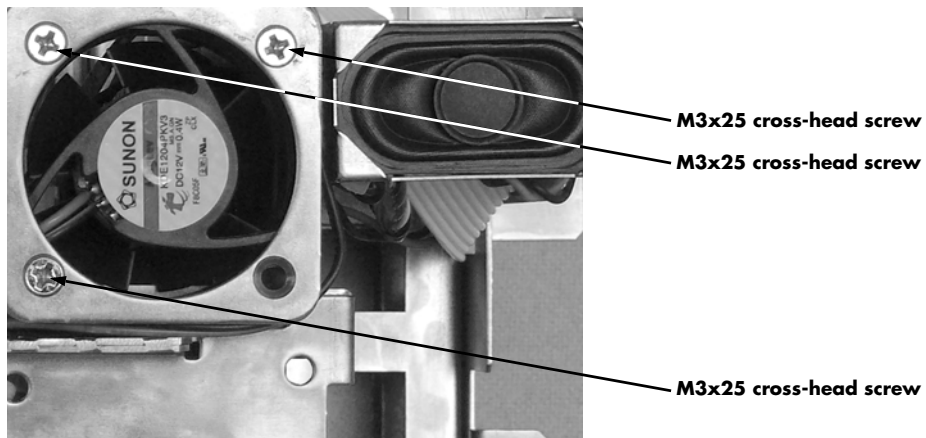

FIGURE 4-23 Remove Three (3) M3x25 cross-head screws.
3. Remove the three (3) M3x25 cross-head screws (as shown in Figure 4-23).